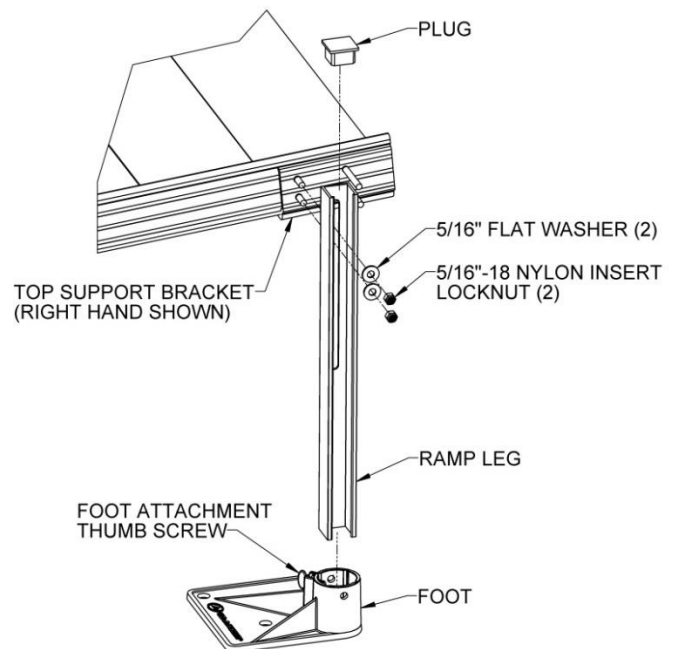

FIG. 7.2
- 7.1.3. Locate the appropriate PRLxxPR (RAMP LEG PAIR where xx denotes the leg length) for the location. Insert the leg into a foot. Make sure the leg is fully engaged in the foot and the foot will be oriented so it extends under the ramp once installed (FIG. 7.2). Tighten the thumb screw on each foot securely.